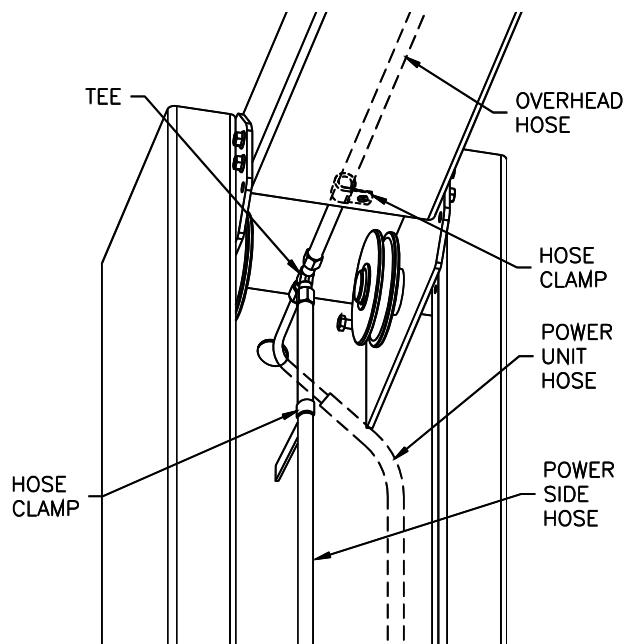

Fig. 12- Power Side Column Ext. Hyd. Routing
- 23) Uncoil Power Side hose, loosely attach it to the Idler Side hose using the Tee fitting (*in hardware box*), remove slack, and secure with clamp at the Column Extension Tab similar to Idler Side, **Fig 12**.
- 26) Tighten the three hose fitting connections at the Tee taking care not to twist or change the lay of any hose. Install and tighten a hose clamp near the Tee at the end of the overhead beam, **Fig. 12**.